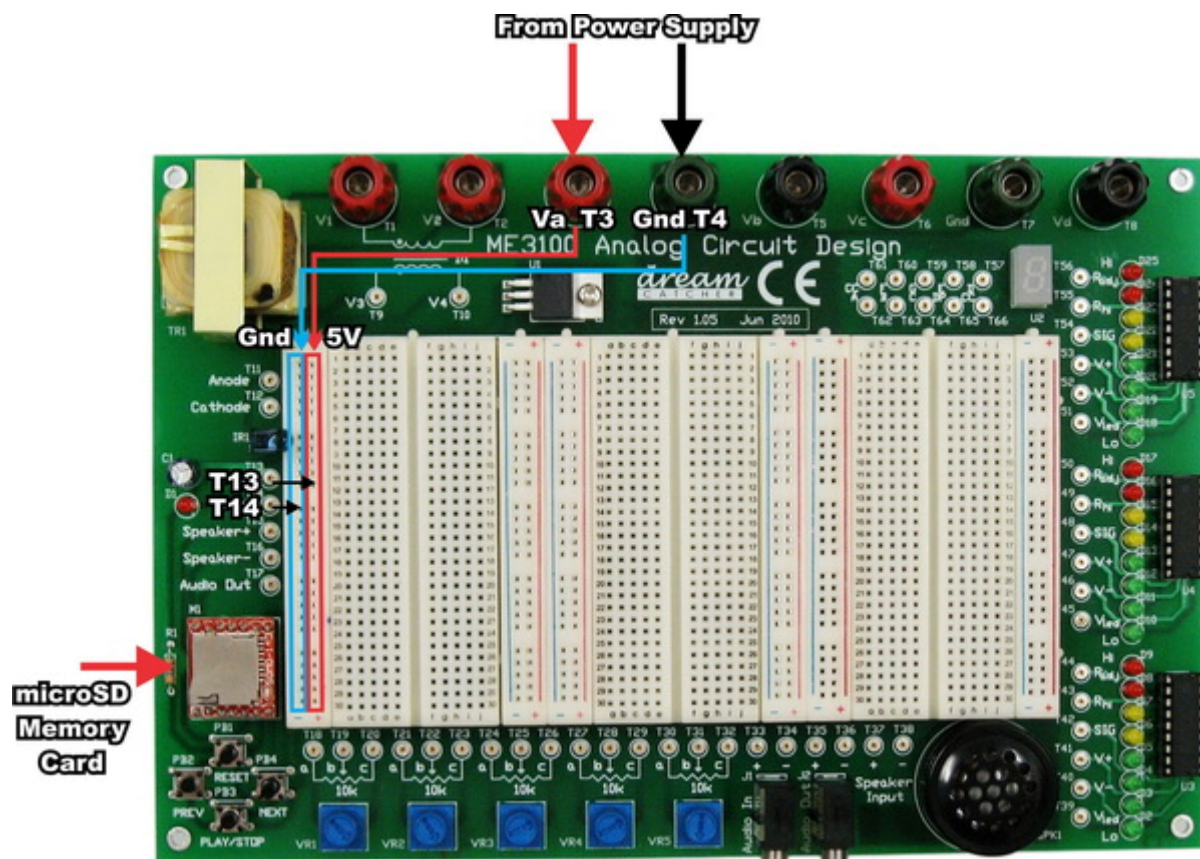

Figure 2 – Connections Between the Power Supply and the ME3100 Analog Circuit Design Kit
4. Connect the **+5 V** power supply output to test points **T3 (V_a)** and **GND** to **T4 (Gnd)** of the ME3100 Analog Circuit Design kit respectively. This is shown in Figure 2.
5. Extend the power source from **T3 (5 V)** and **T4 (Gnd)** to the breadboard as shown in Figure 2.
1. Remain the same connections of the ME3100 Analog Circuit Design kit as shown in Figure 2.